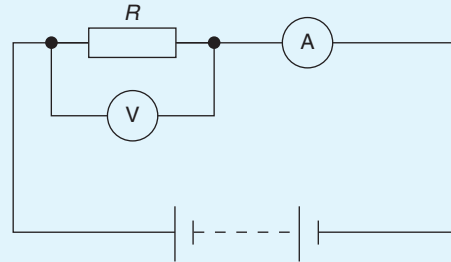

Figure 5.58
11. If in the circuit shown in Fig. 5.58, the reading on the voltmeter is 5 V and the reading